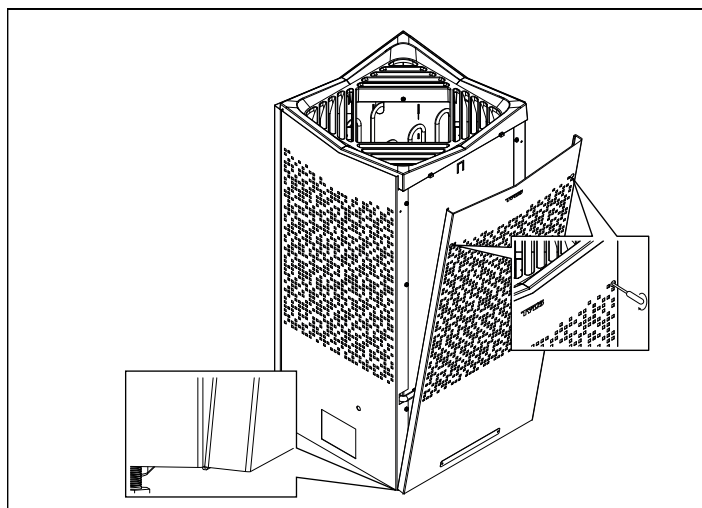

Fig 11: Hook and screw back front and back panels
8. Hook on the front and back panels and tighten the screws (see Figure 11).